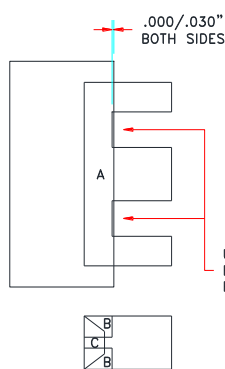

Figure 2
2. Apply 2 layers of insulation tape, item 17, around to one without shield core half as shown in figure 2.
4. Dip varnish to level shown in Figure 2.